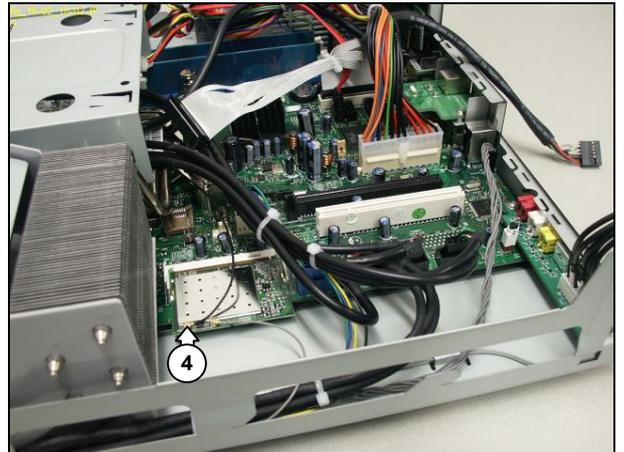

Figure 12.14-2
9. Disconnect the left WLAN antenna cable (4) from the WLAN card. See Figure 12.14-2.